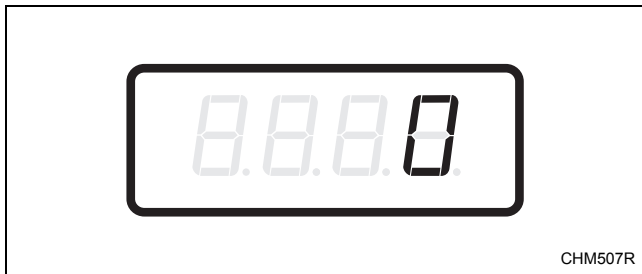

Figure 18
4. When “AtS6” appears in the display, press the START (enter) keypad. There are five digits in the Vend Price #6. The fifth digit will appear in the display and will flash one second on, one second off. Refer to *Figure 18*.